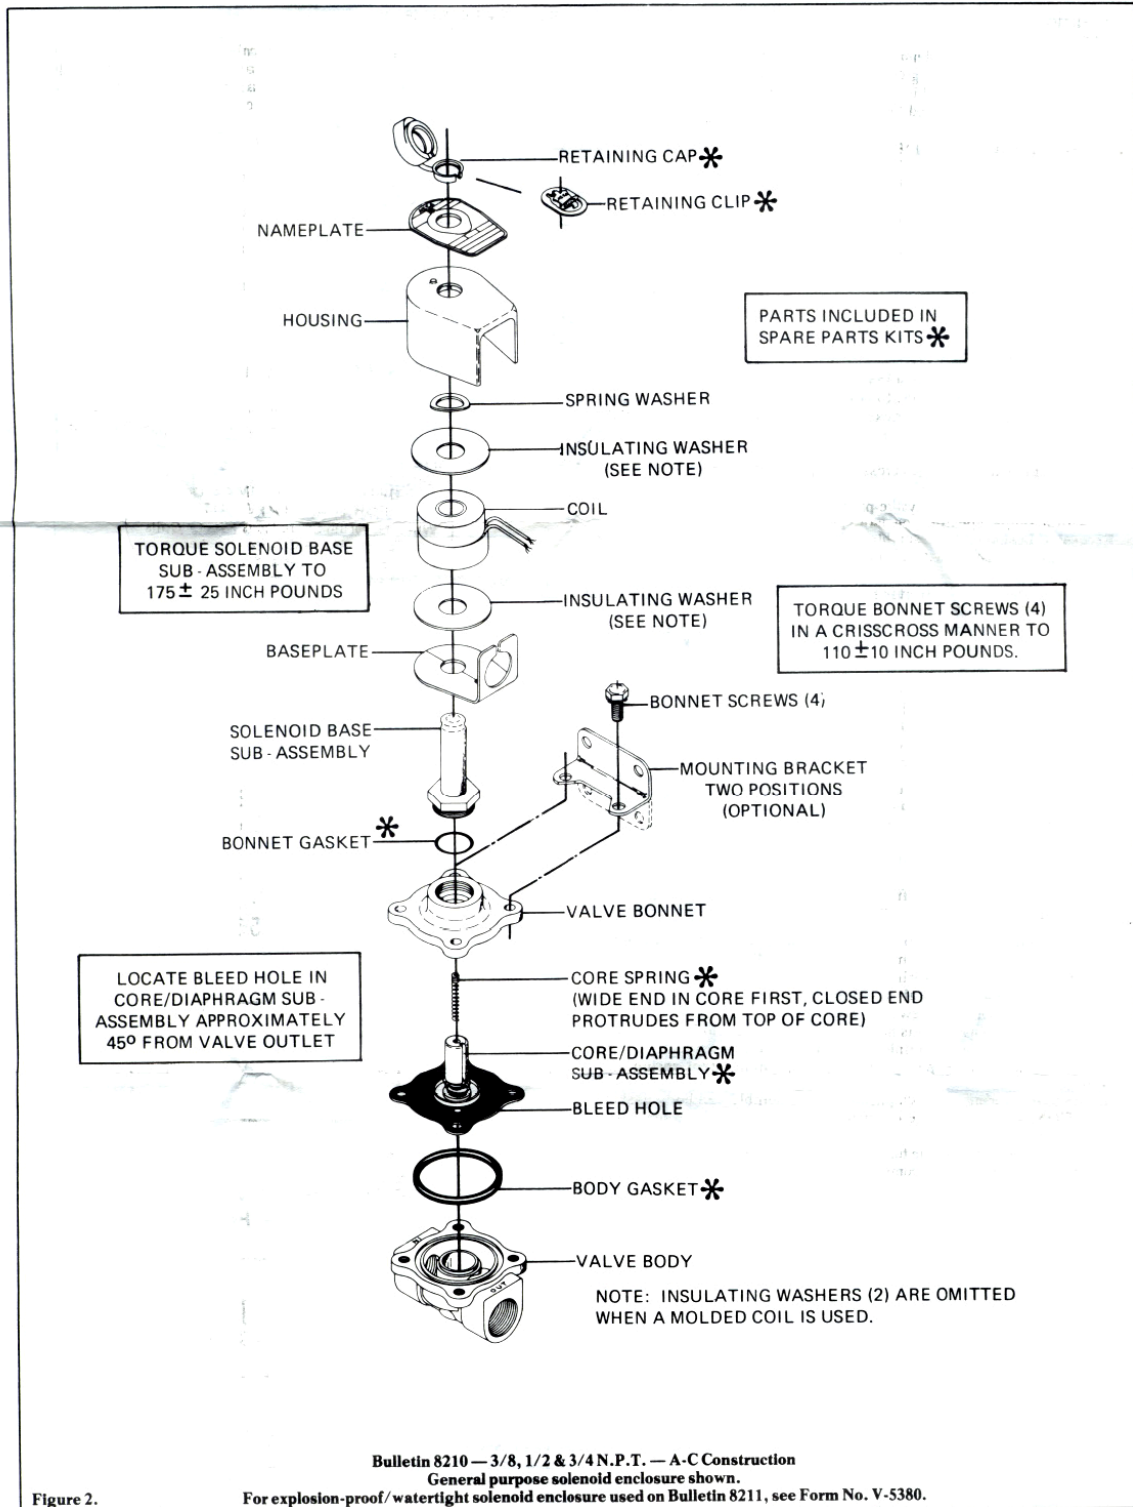

Figure 2.
**COIL REPLACEMENT** (Refer to Figure 2)
**VALVE DISASSEMBLY** (Refer to Figures 2 and 3)
1. Disassemble valve in an orderly fashion using exploded views for identification and placement of parts. Refer to Figure 2 for AC construction; Figure 3 for DC construction.